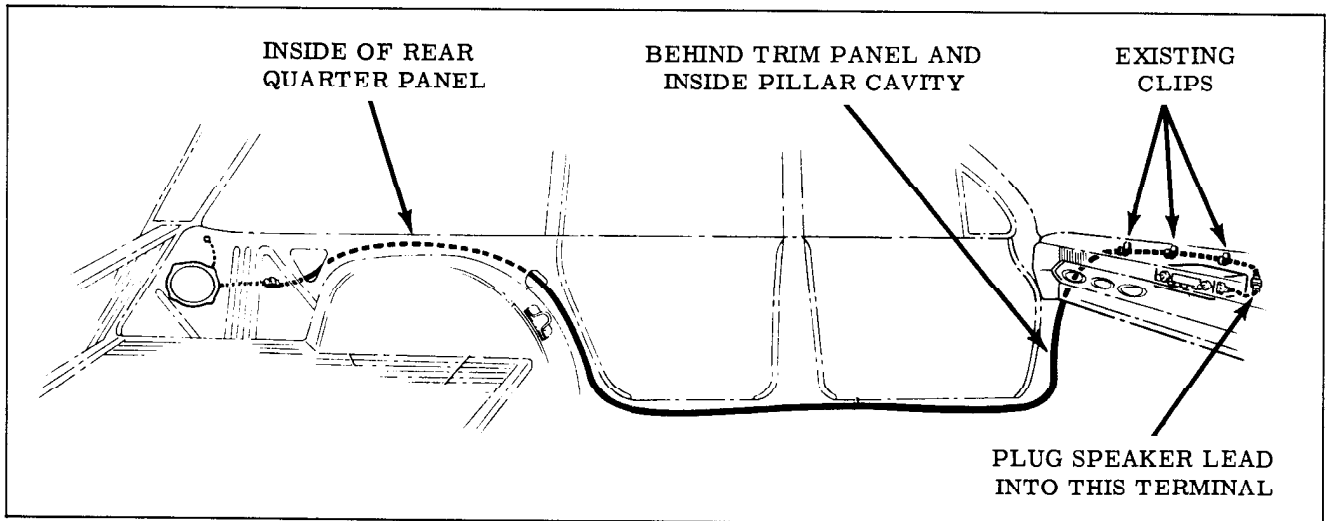

Fig. 15-15 Rear Seat Speaker Lead (35 & 45 Styles)
4. To install, reverse the removal procedure. To replace the speaker lead, refer to Fig. 15-15.